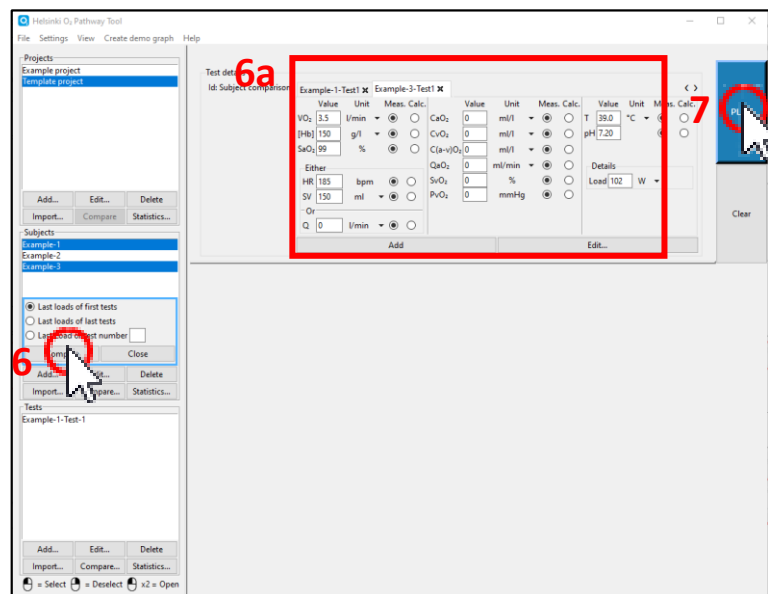

Figure 42
6. Select content for comparison and click the “Compare” button (figure 42).
(a) Test details module is updated with separate loads for every selected subject (figure 42).
7. Click the “Plot” button (figure 42).